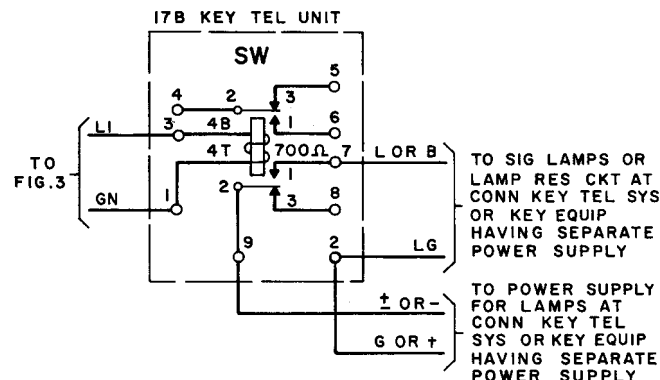
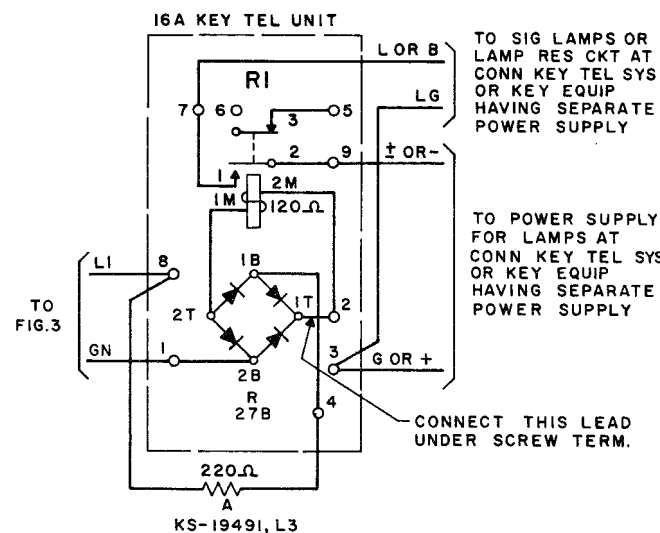

Fig. 4 - DC Switching Lamp Circuit
Fig. 5 - AC Switching Lamp Circuit
Note 2: This line circuit is frequently associated with more than one key telephone system or key equipment installation. Under these conditions the lamp power supply of the system with which the line circuit is primarily associated may be used for all the lamps, provided the lamp grounds are common. If the lamp grounds are not common, lamps of the other systems shall be operated from their own power supplies by means of an auxiliary lamp-power relay supplied one-per-line per connecting system as shown in Fig. 4 and 5.
3.12 Auxiliary Lamp Relay: When lamp power supply grounds are not common on jointly connected systems, provide Fig. 4 (for dc operation) or Fig. 5 (for ac operation).